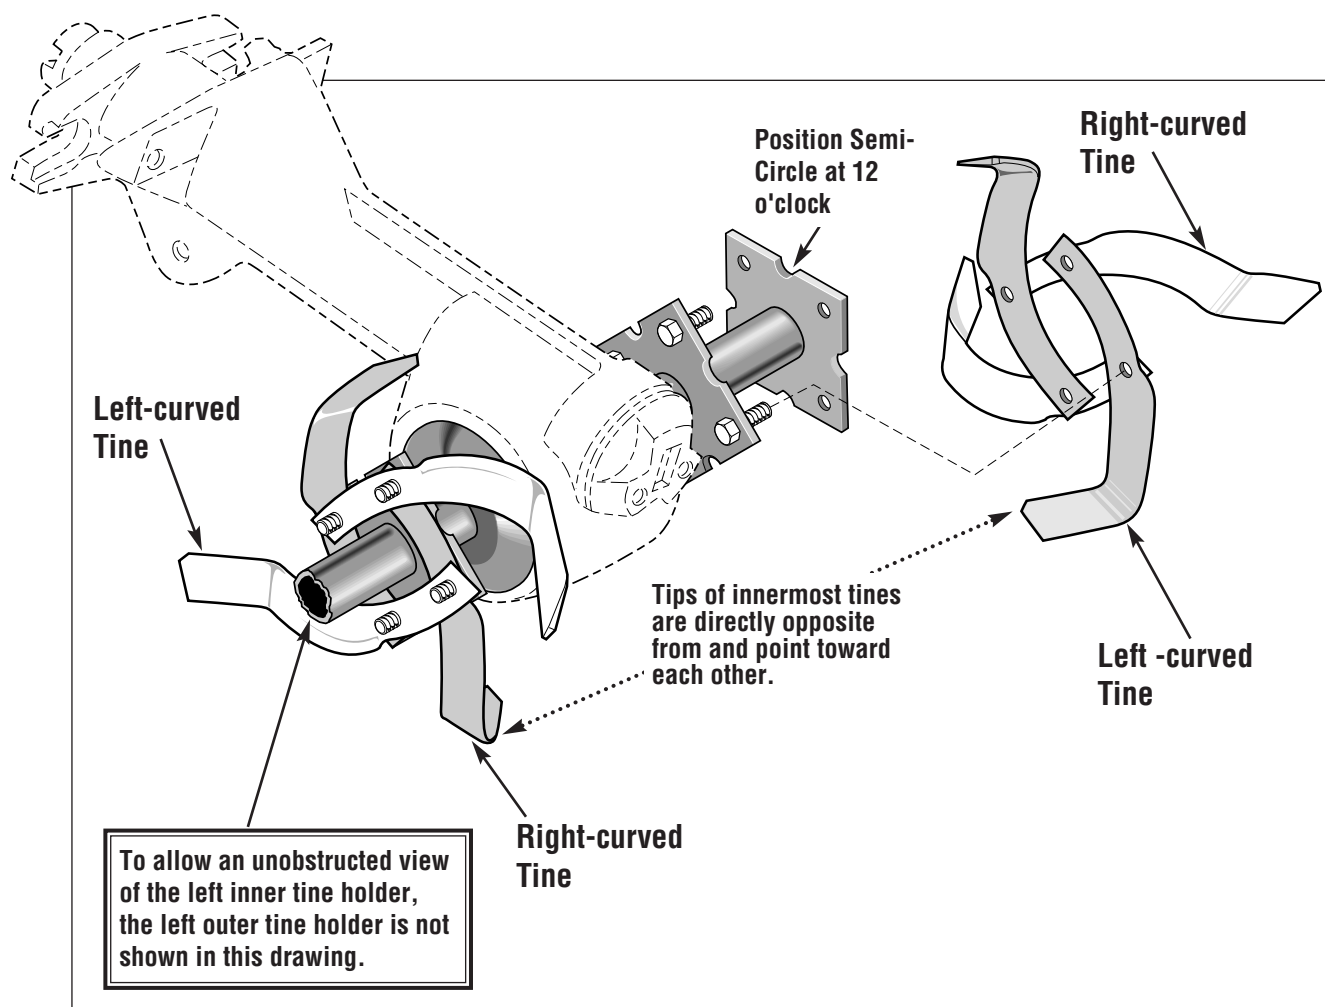

Figure 8: Installing tines on inner holders.
Rotate the tine holders and shaft (by hand) until any one of the semi-circles on the **outer** mounting plates of the holders is at the 12 o'clock position in relation to the ground. See Figure 8 on Page 5.
A. Place two **right-curved** tines (shown shaded in Figure 8) **opposite** each other on the previously installed bolts. Make sure that the tines are positioned as follows:
B. Place two *left-curved* tines (unshaded in Figure 8) *opposite* each other on the bolts, overlapping the tines installed in Step 2-A. Make sure that the tines are positioned as follows:
A. Place two *left-curved* tines (shown shaded in Figure 8) *opposite* each other on the previously installed bolts. Make sure that the tines are positioned as follows:
- ✓ The tips of these two tines should be directly opposite the tips of the two right-curved tines installed on the left inner holder in Step 2-A (see Figure 8).
B. Place two *right-curved* tines (unshaded in Figure 8) *opposite* each other on the bolts, overlapping the tines installed in Step 3-A. Make sure that the tines are positioned as follows: